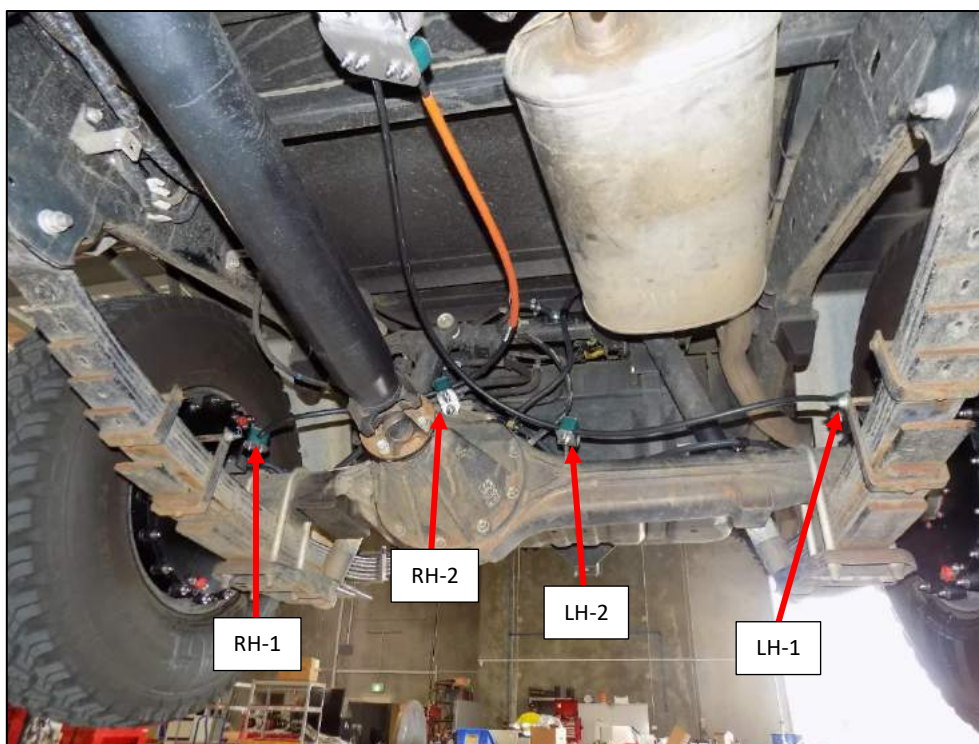

Figure 36
25. The image below shows the recommended park-brake cable routing and required mounting points (Figure 36). Note the cable cross-over.